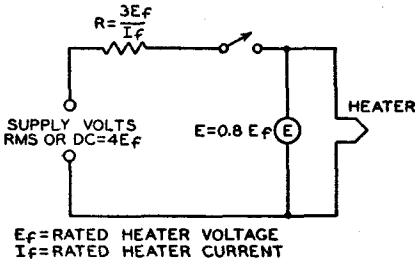

Fig. 101—Test circuit for measuring heater warm-up time.
**Heater warm-up time** is defined as the time required for the voltage across the heater to reach 80 per cent of the rated value in the circuit shown in Fig. 101. The heater is placed in series with a resistance having a value 3 times the nominal heater operating resistance